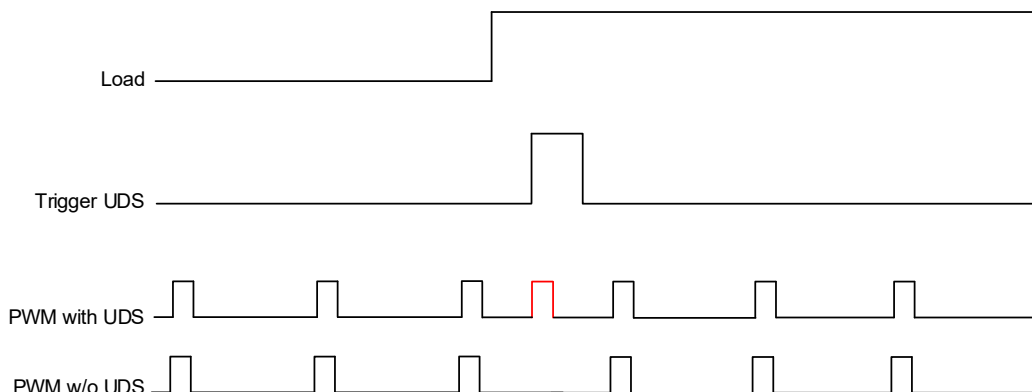

Figure 21. Adaptive Ramp (AR) Function in Single Phase
In single phase configuration, the RT3672EE provides Adaptive Ramp (AR) function to suppress undershoot when load applied. The controller detects internal COMP signal and compares it with steady-state signal. When COMP signal variation exceeds a specified threshold, the controller will force to generate PWM earlier. The threshold of Adaptive Ramp (AR) function can be selected via NVM registers AR\_TH\_1PH\_6Ch [7:5]. Figure 21 shows UDS behavior in single phase operation. Note that the threshold of AR should be large enough to avoid false triggering in steady-state. Since the internal COMP signal can vary with ERROR AMP compensator, the final setting should be based on actual Error AMP compensator design and measurement.